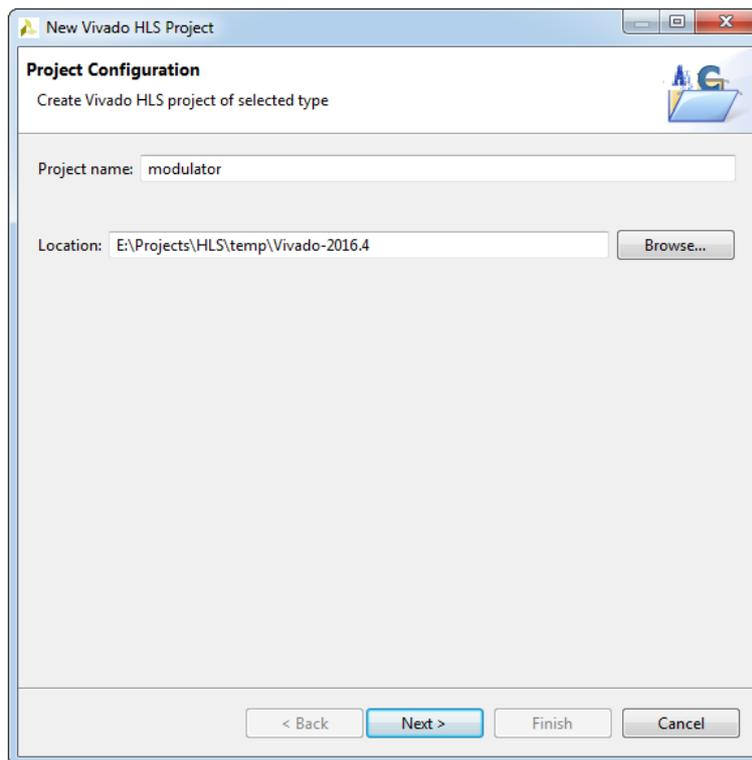

Figure 2.2: Project Configuration dialog box
- In the **Location** field click **Browse** button to specify the location where project data will be stored, see Figure 2.2.
When Vivado HLS creates a new project, it also creates a directory with the name and at the location that we specified in the GUI (see Figure 2.2). That means that the all project data will be stored in the project_name (**modulator**) directory.